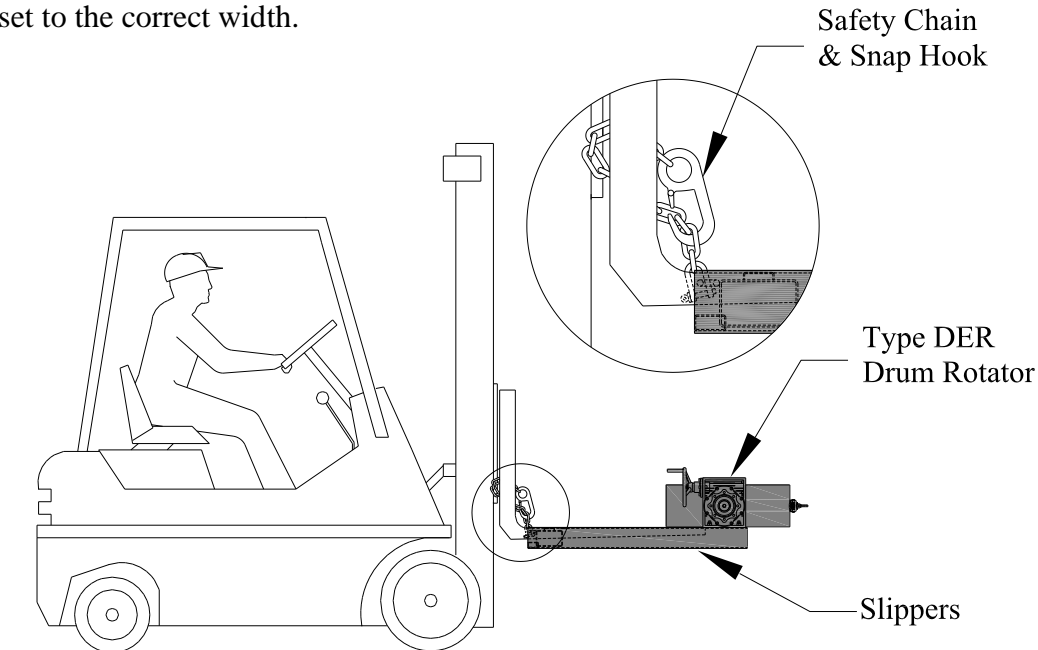

Fig. 3.1
To install the DER Drum Rotator, engage the Forklift arm into the slippers as shown in *Fig 3.1*. With the fork arm positioned as far as possible into the slipper, run the safety chain provided around the carriage or tower. Re-attach the chain to itself with the snap hook.
- G) The Operator shall check that the Drum Rotator is securely attached, refer *Fig. 3.1*.